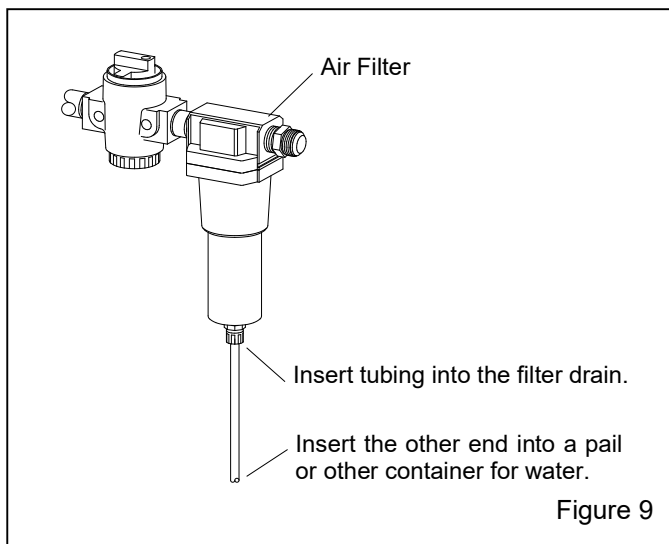

Figure 9
2.11.1 Attach Drain Tube to Air Filter – Figure 9